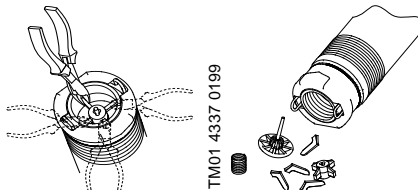

Fig. 7
1. Cut off the legs of the valve guide using side-cutting pliers or a similar tool. See fig. 7.